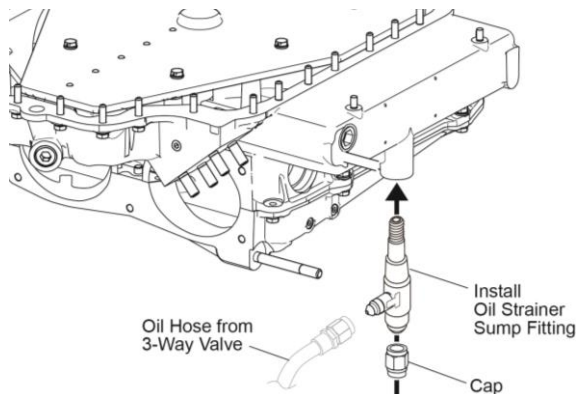

Figure 4
10. Install the oil sump strainer fitting (P/N LW-13753) in the threaded hole where the oil drain plug was removed (Figure 4).
12. Attach the new oil hose to the fitting end of the oil sump strainer fitting (Figure 4) and the bottom port on the 3-way valve of the inverted oil system per the aircraft manufacturer's instructions.
13. Make sure the cap on the oil sump strainer fitting (Figure 4) is installed correctly in accordance with instructions in the applicable Lycoming manual or aircraft manufacturer's manual. Safety wire/cable the cap in accordance with the standard practices per the latest revision of AC43.13-1B or the latest revision of Service Instruction No. SI-1566.